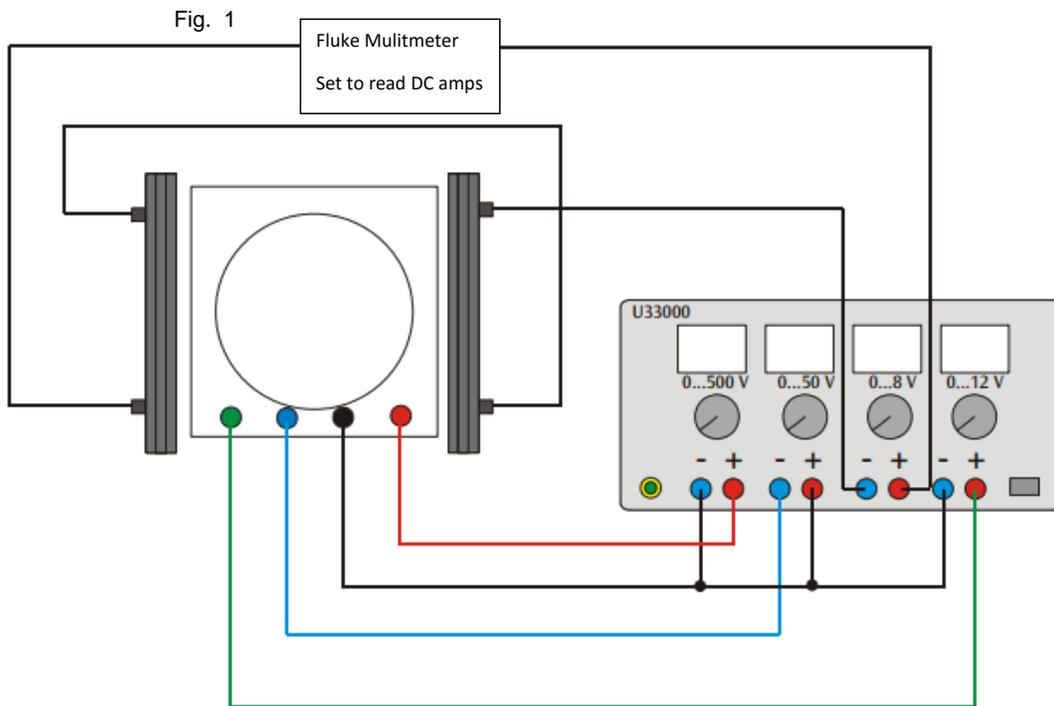

Fig. 3 Experimental set up
Fig. 3 shows the wiring diagram. Four voltages are supplied by a single unit. The glass tube plugs into a base unit which has four lettered color terminals. The lettering and meaning are as follows.
From left to right in Fig. 3, the four units of the power supply provide up to 500 V for the cathode-anode voltage, 50 V for the focusing cylinder, 8 V for the Helmholtz coils, and 12 V for the heating filament. The negative terminal of the 500 V supply, the positive terminal of the 50 V supply, and the negative terminal of the 12 V supply are connected together. This arrangement makes the focusing cylinder negative with respect to the cathode. A maximum of 300 V should be applied to the anode. A Fluke multimeter is used to measure the DC current of the Helmholtz coils.
- Wire up the apparatus as illustrated in Fig. 3.